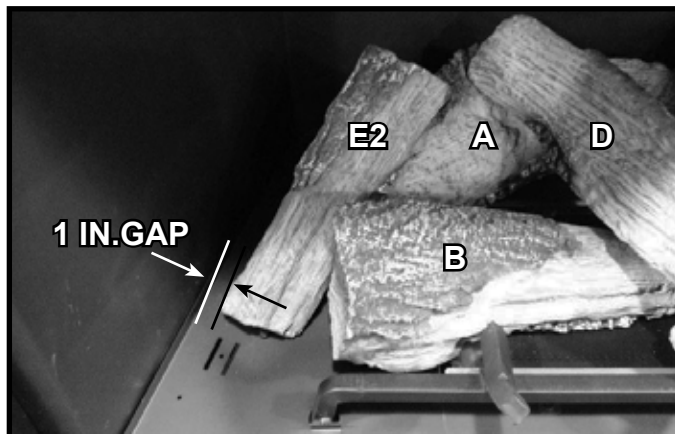

Figure 11. Log E2 Installed
7. **(LOG E2):** Place Log E2 into appliance as shown in Figure 11. The base of the log should be positioned against the pin indicated in Figure 4 for Log E2. The top side should rest against Log A. The base end of Log E2 should be approximately one inch from the left side of the firebox.